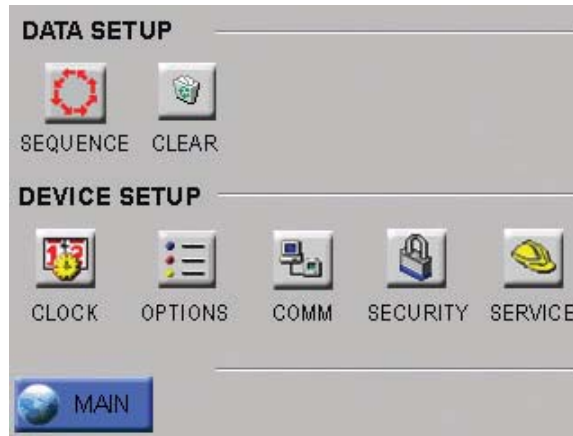

Figure 6-30 Configuration Screen
1. From the HOME Screen press the CONFIG button to go to the Configuration Screen as shown in Figure 6-30.